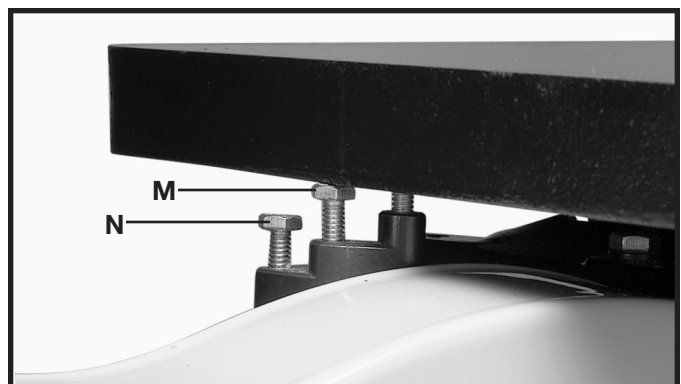

Fig. 48
3. Tilt the table to the right, and turn the stop until either stop screw (M) or (N) Fig. 48, is under the table skirt.
4. Tilt the table to the left until it rests on the selected stop screw (M) or (N) Fig. 48.
6. Adjust the other stop screw (M) or (N) Fig. 48, in the same manner.